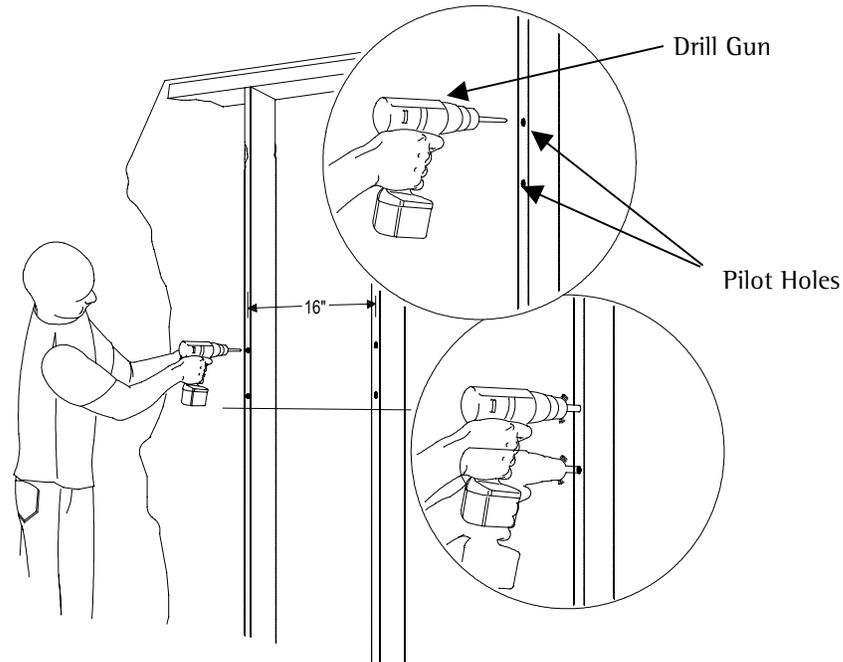

Figure 12. Mounting Surfaces
3. Use the information below when mounting to the following surfaces (Figure 12):